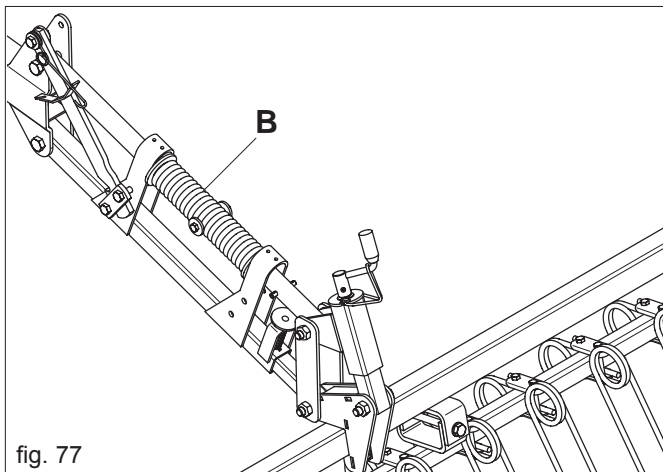

fig. 77
The working pressure of the spring-loaded teeth can be varied by rotating the spring (B) located on the upper parallel arm (Fig. 77).